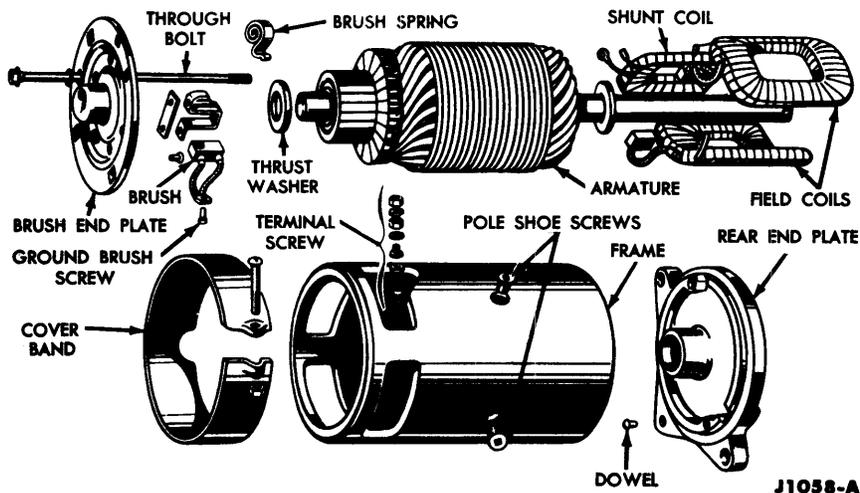

FIG. 11—Disassembled Starter Motor
Use the following procedure when it becomes necessary to completely overhaul the starter. Figure 11 illustrates the starter completely disassembled.
1. Remove the starter drive, through bolts, and rear end plate (Fig. 11). Be sure to remove all burrs from the shaft to prevent scoring the rear end plate bushing.